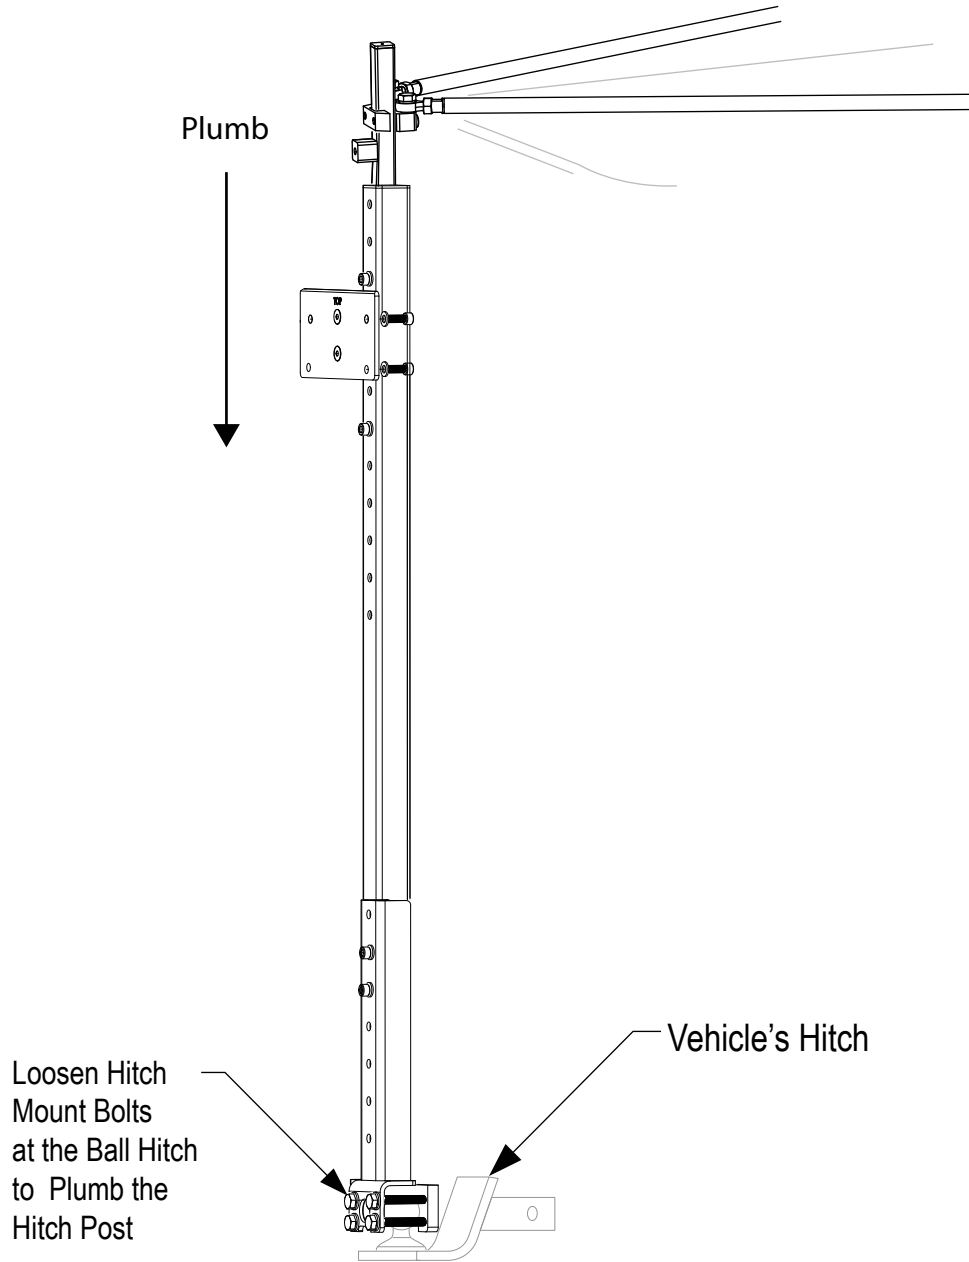

Figure 3: Plumb Hitch Mount Post
4. Before tightening the crossbar bolts onto the post extension clamp, loosen the ball hitch bracket and plumb the hitch post as shown in Figure 3.